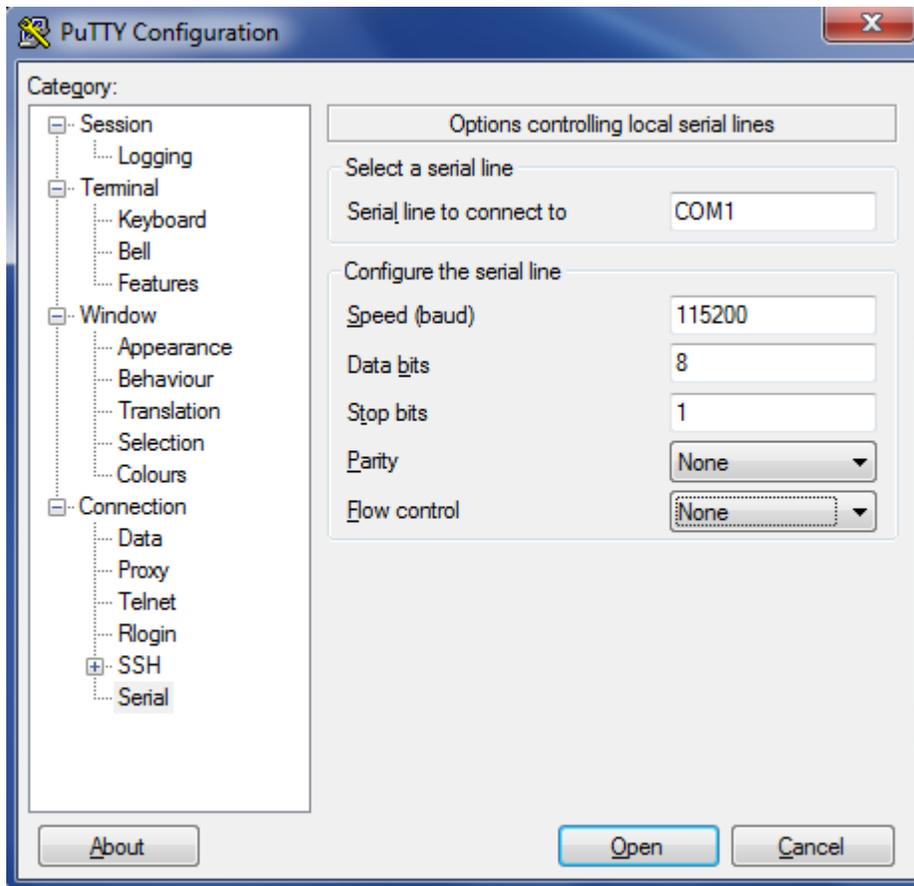

Figure 5.6 PuTTY Configuration Settings
5. On the PuTTY Configuration dialog, shown in Figure 5.6, verify that **Serial line to connect to** is set to **COM1**. Note: If you are using a serial to USB adapter, this field can be set to a different COM port.